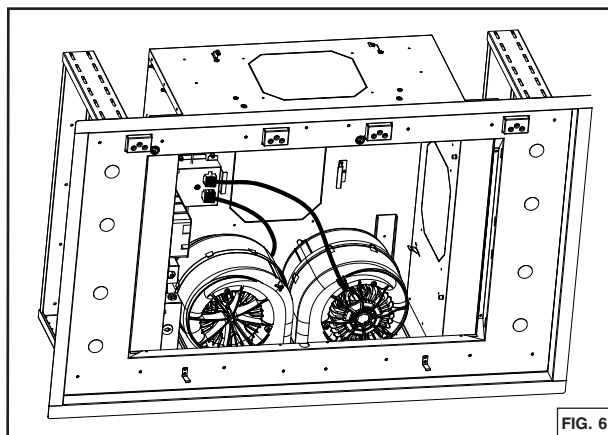

FIG. 6
1. Push in lock tabs (2) on the ends of perimeter panel. See FIG. 6.
Re-install the aluminum mesh filters and central panel as needed (See FIG. 7). Make sure lock tabs are back in place once installation is done (See FIG. 6).